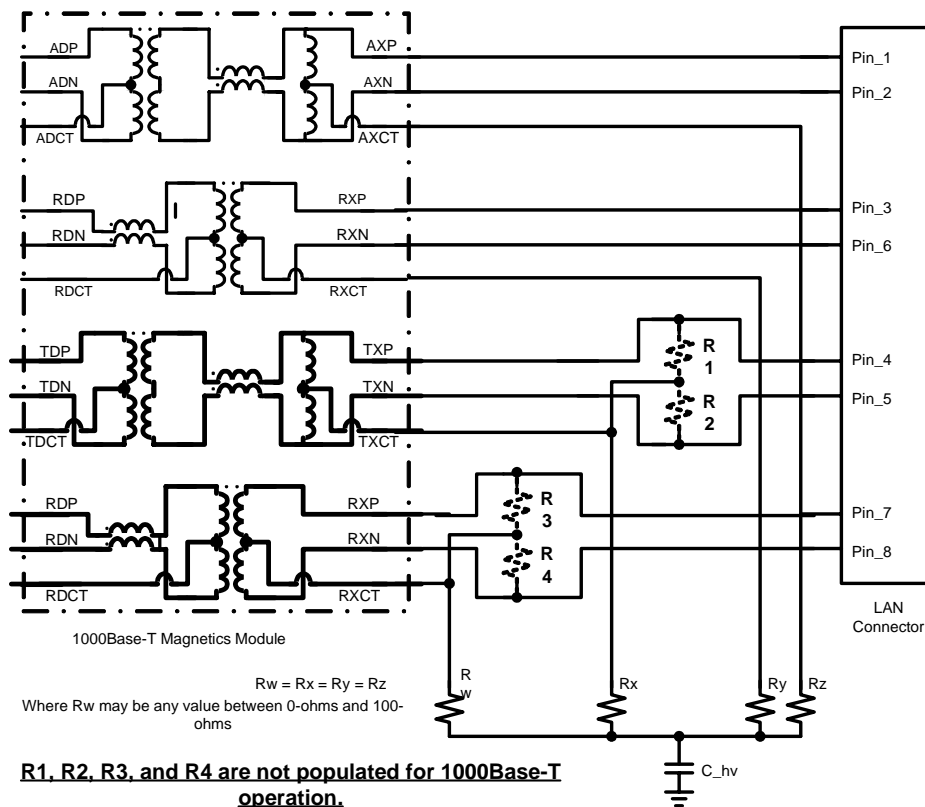

Figure 10. Typical Magnetics for Gb LAN Controller with Optional Resistors Footprint
1. Layout resistor footprints on the pairs three and four of the differential traces for 82541ER LOM design. Refer to Figure 10.